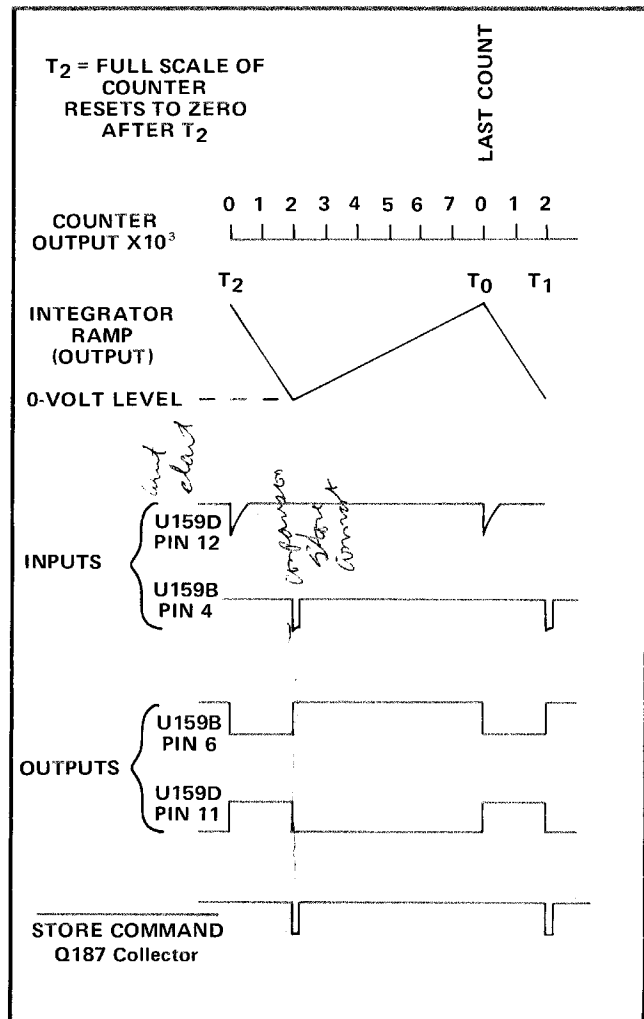

Fig. 3-2. Analog-to-Pulse-Width Converter circuit waveforms showing their relationship to the Counter output.
Fig. 3-2 shows the time relationship of the Counter output and the Analog-to-Pulse-Width Converter circuits. The Integrator ramp waveform represents the Integrator output for a full-scale measurement (e.g., 2,000 V). Regardless of the measurement input, the duration of the ramp remains the same; the positive portion of the ramp always ends at  $T_0$ , corresponding to the Last Count from the Counter.
the ramp and the output of the Zero-crossing Comparator is shown in Fig. 3-2; the input to U159B at pin 4 is the output of the Zero-Crossing Comparator.
**Zero-Crossing Flip-Flop.** The Zero-Crossing Flip-Flop is an RS flip-flop made up of U159B and D. This circuit has two inputs and two complementary outputs, all of which are shown in Fig. 3-2.